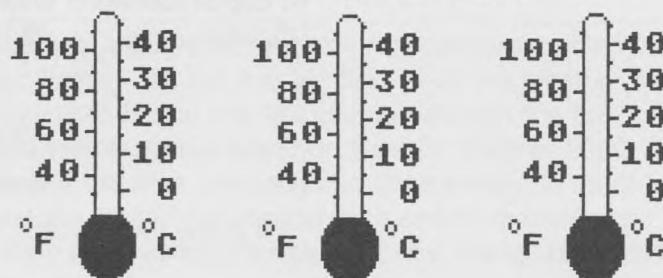

Figure 2–1. Three thermometer bulbs.
9. Draw the temperature levels in Figure 2–1. ■10
10. Examine the temperatures in Figure 2–1 and try to predict what temperature you will measure when after equal parts of the ice water and warm water are mixed together.
11. Sketch the predicted temperature in Figure 2–1, and write down the predicted temperature. _____ °C ■11
According to our principles of temperature, the new mixture should be about half-way between the temperatures of the lukewarm water and the ice water. You should have found this halfway temperature approximately from the sketches you made in Figure 2–1. You could also calculate the predicted final temperature using the equation below: ■14